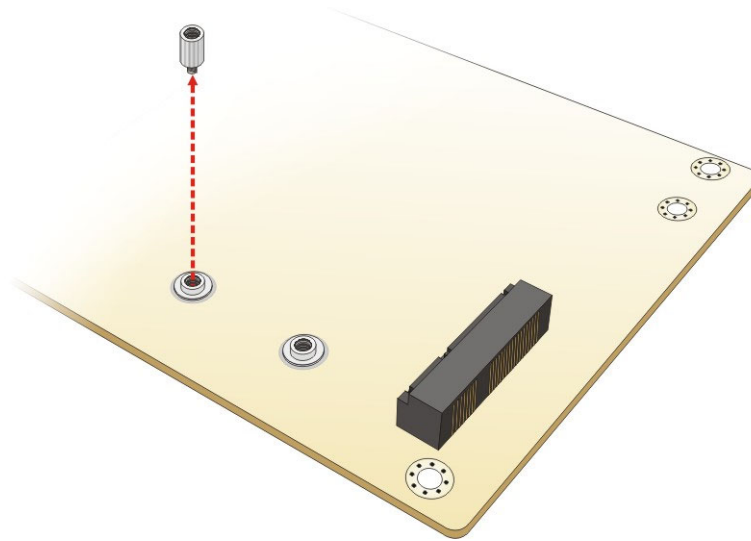

Figure 4-8: Removing the Standoff
Step 3: Remove the standoff. Unscrew and remove the standoff secured on the motherboard as shown in Figure 4-8.